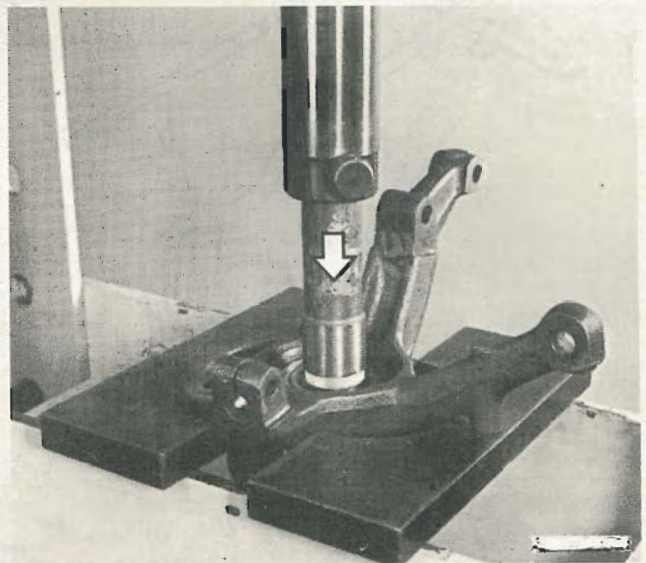

Fig. 9.3 Pressing the hub from the front wheel bearing (Sec 3)
- 5 Support the hub carrier on two metal bars positioned as shown in Fig. 9.3, then using a metal bar or tube of suitable diameter, press or drive the hub from the wheel bearing. Alternatively, screw two roadwheel bolts into the hub and, using progressively thicker packing pieces, tighten the bolts to force the hub from the bearing. Note that it is likely that one half of the inner bearing race will remain on the hub.